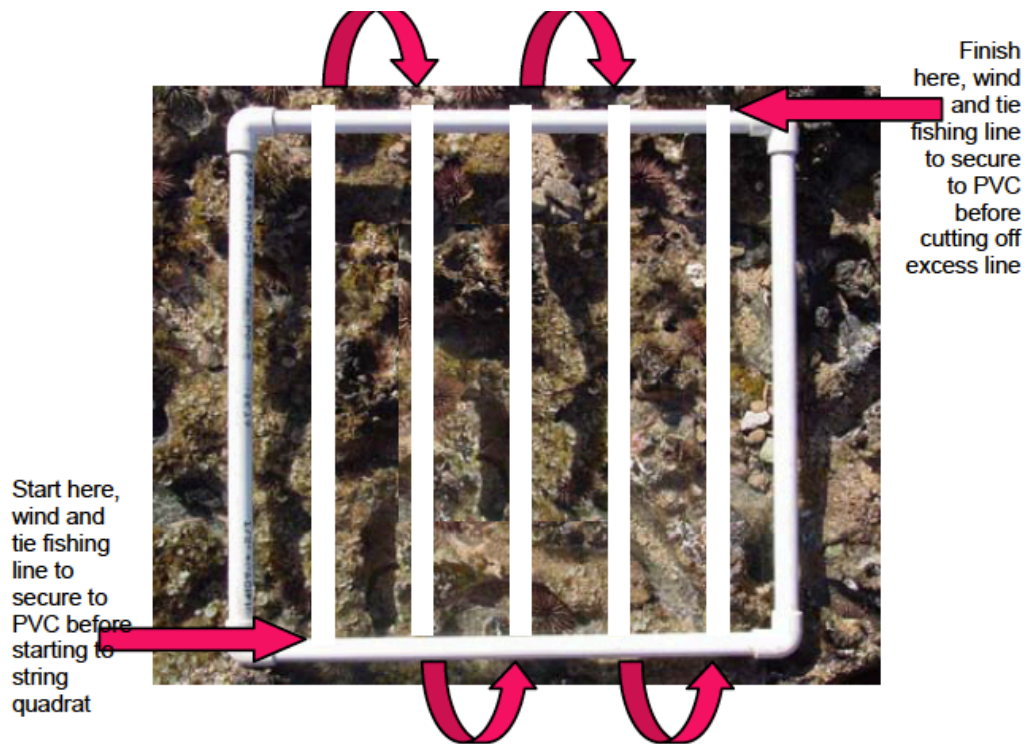

Figure 4. String quadrat to create set of parallel lines.
11. Weave the long end of the line through the holes on opposite sides of the quadrat to create a set of parallel lines (Fig. 4). If your string is very flexible, you may need to use a needle to push it through the PVC pipe holes. You can also tape up the end of the string to make it “stiff”.